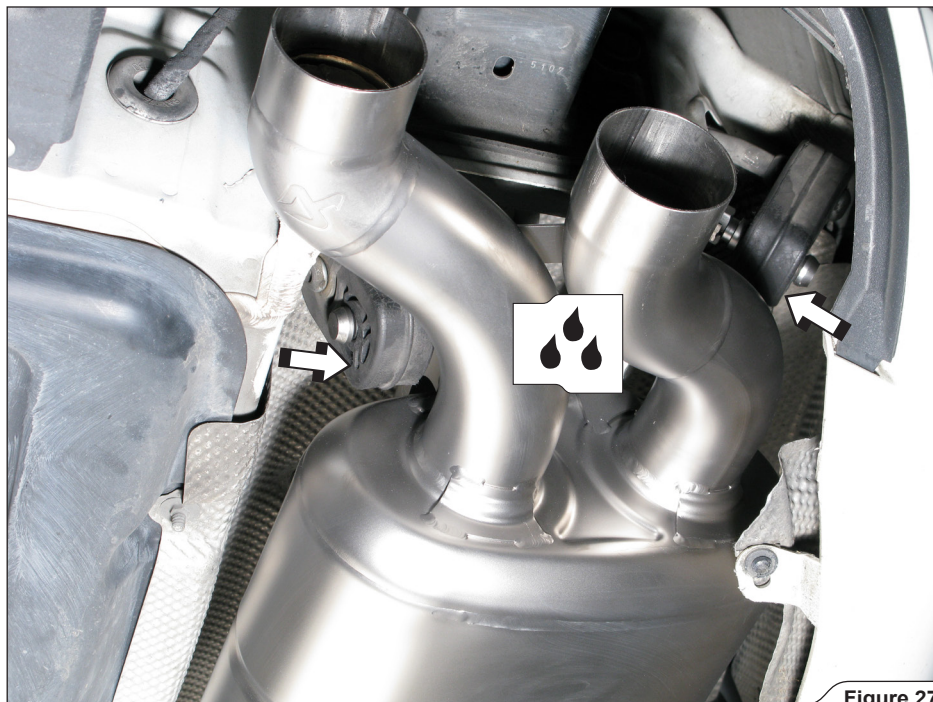

Figure 27
11. **For Slip-On and Evolution:** hang the mufflers on the stock rubber brackets (**Figure 27, 28**).